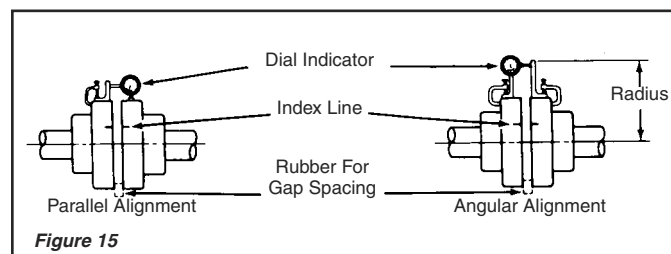

Figure 15
11. For more accurate alignment, use a dial indicator clamped on one hub, with the dial indicator button resting on the other hub. Rotate the hub on which the indicator is clamped, and observe the indicator reading. Take readings at four locations, 90° apart. With correct alignment, the faces of the couplings should be parallel within .001 per inch of shaft diameter, in both parallel and angular planes. (See Figure 15) If available, laser alignment is recommended.